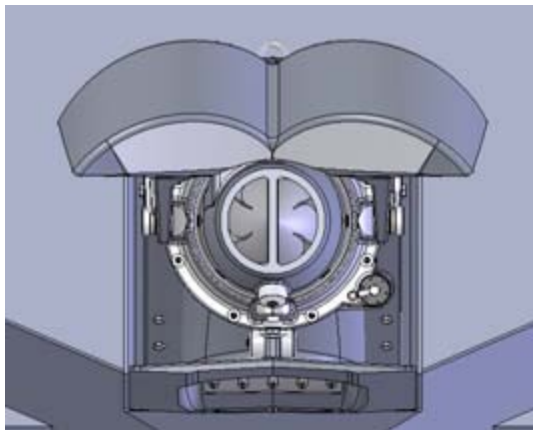

Figure 36. Checking the stator for blockages
3. Check the stator or nozzle unit (figure 36).